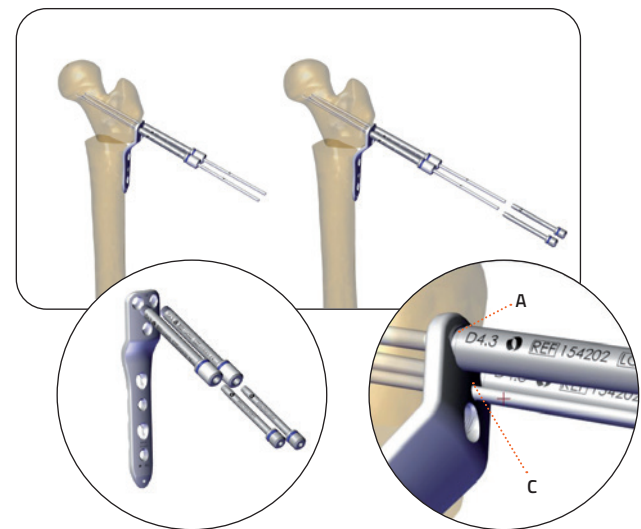

Fig. 21
Tighten the drill guide locking into the femoral neck proximal screw holes, and slide the plate, through the drill guides (A), over the wires (**Fig. 21**). The distal positioning K-wire (C) must be inserted in the positioning K-wire hole in the plate.